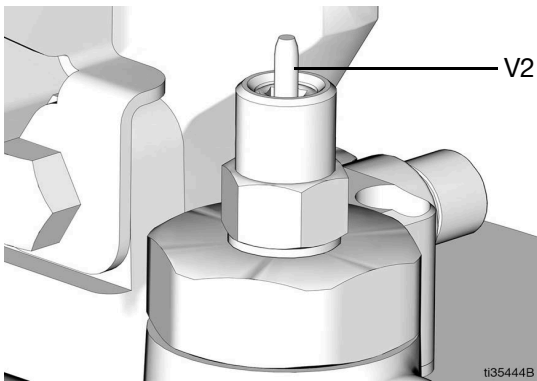

FIG. 16
- Check breather (J) vent for proper operation before filling the tank (K).
- Do not fill tank (K) beyond the overflow port (H).
- Do not use the breather (J) as a port to fill the tank.
- Start the remote fill station pump (AA).
- When the tank (K) is filled:
- The remote fill station pump (AA) stalls (dead-heads),
- the auto-fill shut off pin (v2) pops up as shown in FIG. 16,